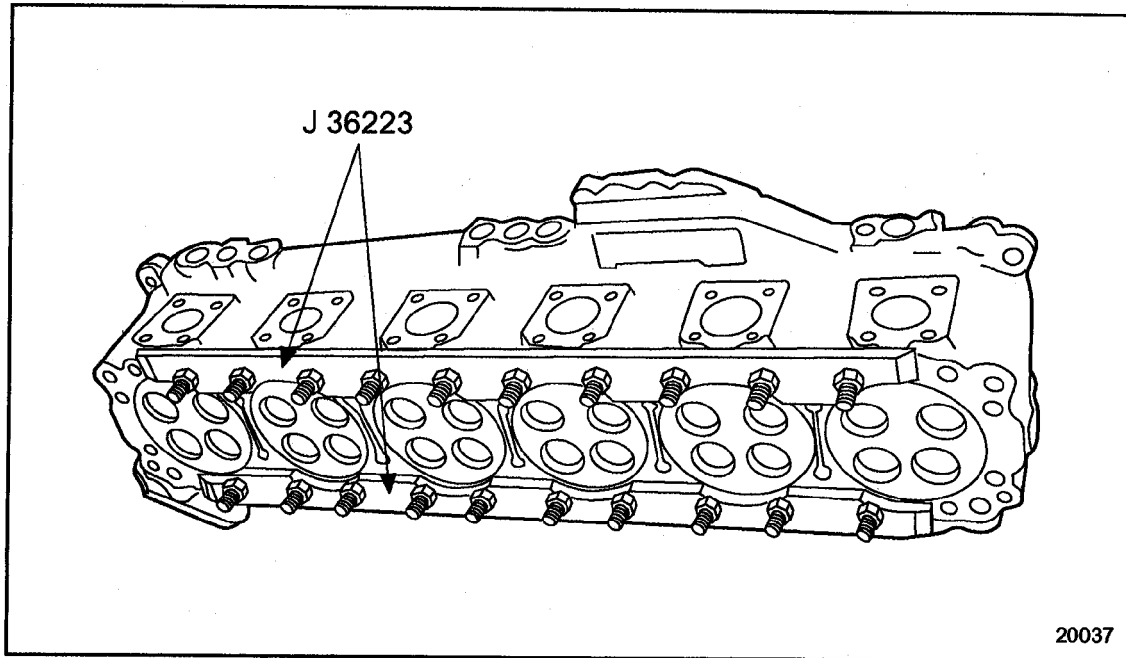

Figure 1-38 **Cylinder Head Pressure Test Equipment Installation**
1. Install the test strips (part of cylinder block pressure test kit, J 36223) to the firedeck on the cylinder head. See Figure 1-38.